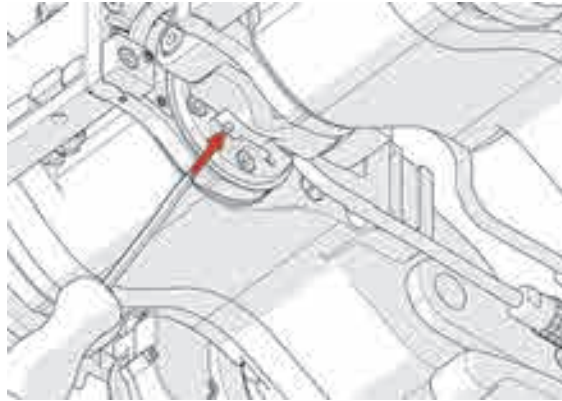
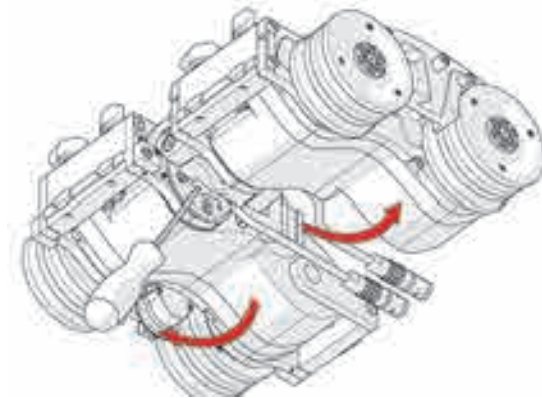

Figure 4-21 Press release pin
Figure 4-22 Press pin and rotate modules
1. Locate the release pin at the bottom of the SteerROVER (see Figure 4-21 on page 107). Using the supplied 3 mm hex driver, press the pin while rotating the two modules (see Figure 4-22 on page 107).